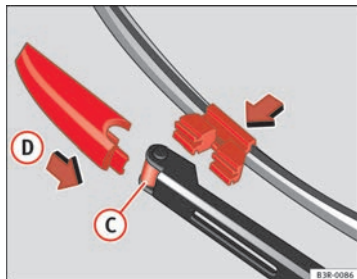

Fig. 175 Fitting the wiper blade
- Fit the new wiper blade into the mounting on the wiper arm $\Rightarrow$ fig. 175 **C**.